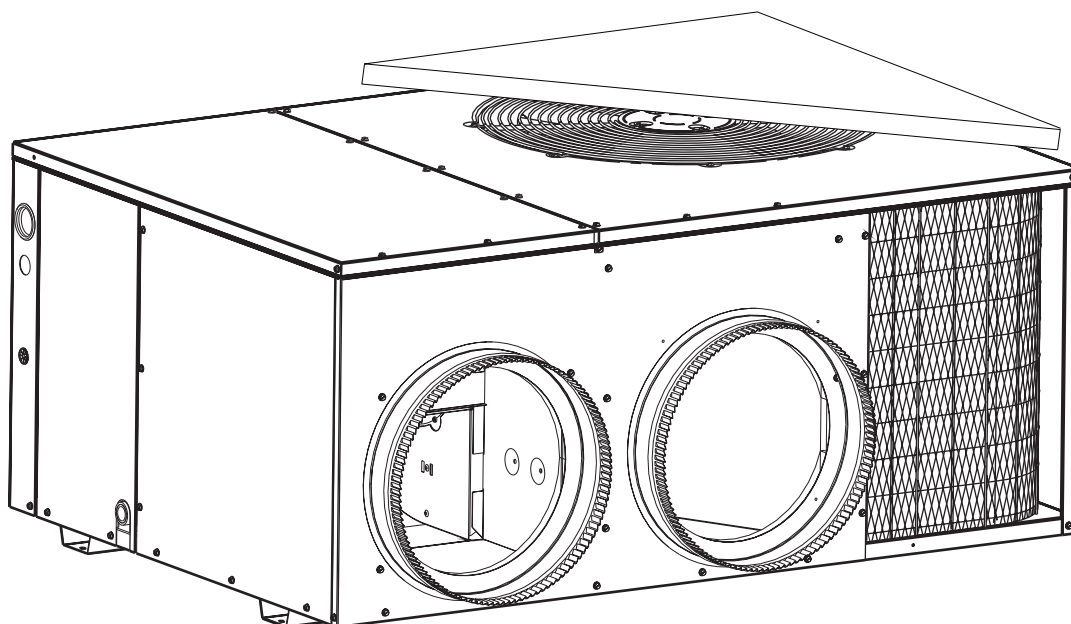

Figure 10. Q94RD With Fan Discharge Blocked Off
1. Block off the discharge of the outdoor fan. **NOTE:** One half of the unit should be covered corner to corner as shown in Figure 10.
3. Measure the outdoor dry bulb temperature (F) and indoor wet bulb temperature (F).